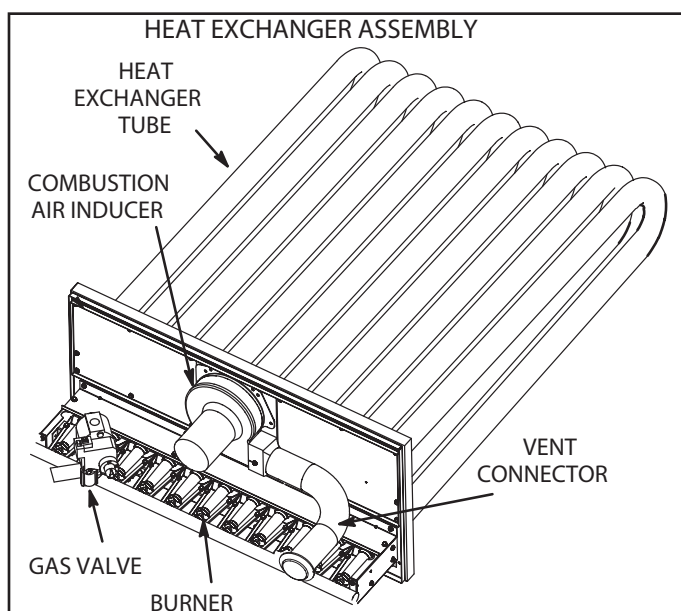

FIGURE 39
- 3 - Remove and retain screws securing combustion air inducer to flue box. Remove vent connector. See FIGURE 39.